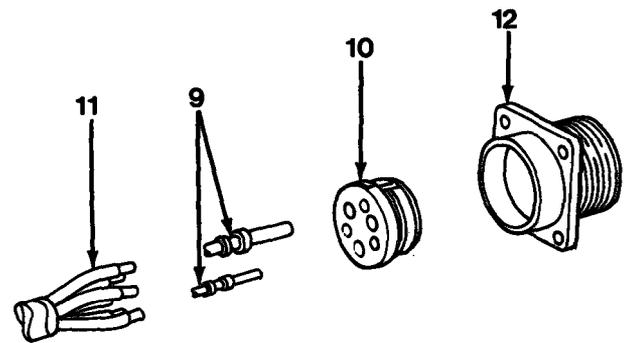

Figure 10-4
1. Strip cable insulation equal to depth of solder wells of pin contacts (9, Figure 10-4).
2. Insert cable leads (11) into solder wells of pin contacts (9) and solder (use rosin core solder only).
3. Push insert (10) into shell (12) from rear until seated. Groove in insert (10) must be aligned with guide in shell (12) to insure proper fit.
4. Push pin contacts (9) into insert (10) from rear until seated.